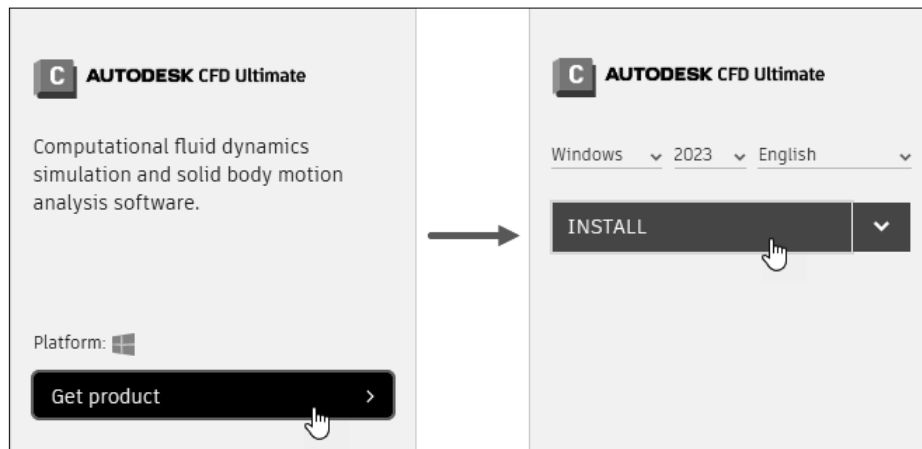

Figure-5. Autodesk page for CFD Ultimate Student Version download
- After signing in, move down on the web page and click on the **Get product** link button for AUTODESK CFD Ultimate; refer to Figure-5. Select the version, platform, and language of software from the drop-downs; refer to Figure-5. The **INSTALL** button will be active.